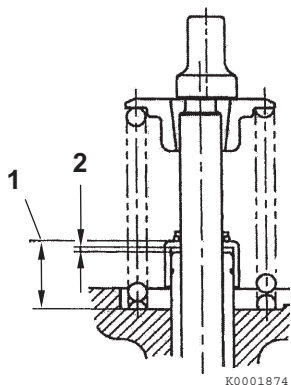

Figure 6-30
The exhaust valve stem seals are different than the intake valve stem seals and can be identified by either the paint marks on the outside of the seals or by the color of the seal spring (**Figure 6-30, (4)**). Ensure they are installed in the correct locations.
2. Measure the distance (**Figure 6-30, (1)**) from the cylinder head to valve stem seal to ensure proper clearance (**Figure 6-30, (2)**) between the guide and the seal. See *Valve Stem Seal Projection specification on page 6-6*.